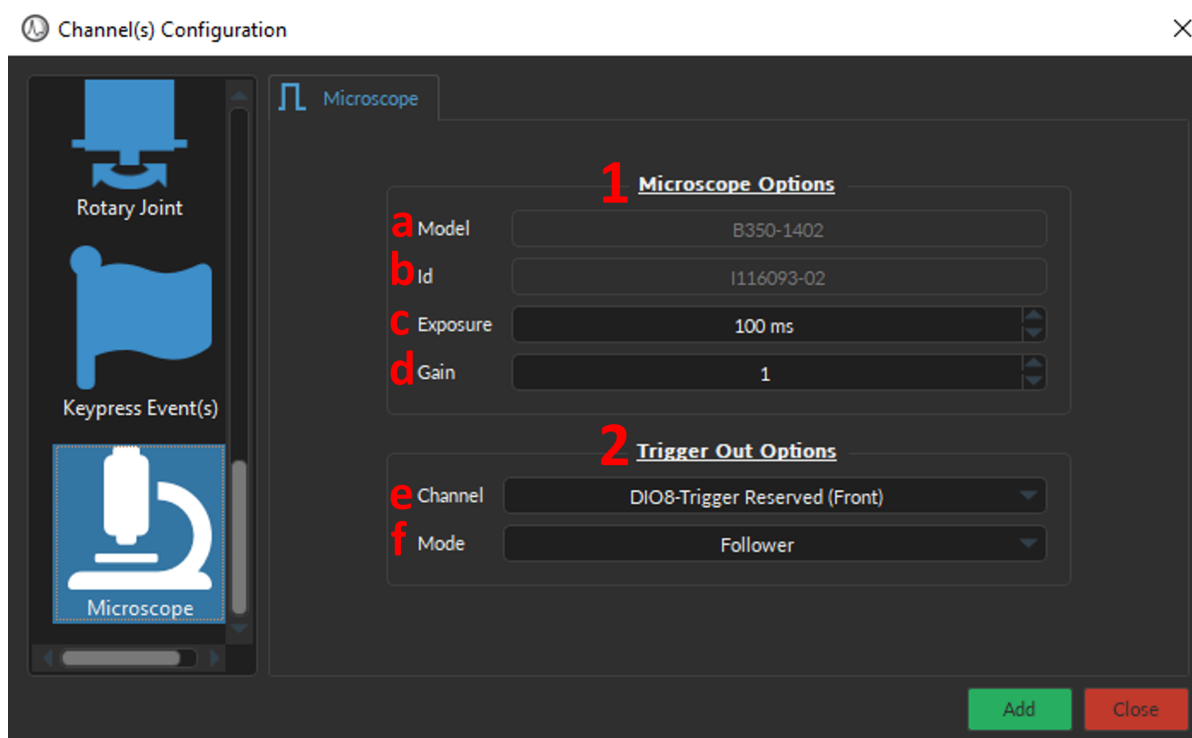

Figure 11.63: Channel(s) configuration window, Microscope
1. The **Microscope Options** (Fig. 11.63, 1) includes:
- a) The **Model** (Fig. 11.63, a) automatically detects the type of miniature microscope connected to the NC500 port.
- b) The **ID** (Fig. 11.63, b) displays the serial number of the miniature microscope connected to the NC500 port.
- c) The **Exposure** (Fig. 11.63, c) specifies the length of time (in ms) that the microscope sensor collects light from the sample. There are trade-offs between exposure time, image brightness, and phototoxicity.
- d) The **Gain** (Fig. 11.63, d) sets the relative amplification measure applied to the sensor. Note that increasing the gain will simultaneously increase both the signal and noise. Four options of gain (1-4) are available.
2. The **Trigger Out Options** (Fig. 11.63, 2) outputs a TTL train from the **Digital Output** port on the NC500 to synchronize other experiment devices. Two parameters must be specified:
- e) The **Channel** (Fig. 11.63, e) sets the DIO port number that outputs the TTL pulse when the microscope is recording. By default, **DIO8 (front)** is reserved for this purpose.
- f) The **Mode** (Fig. 11.63, f) specifies the shape or pattern of TTL output: